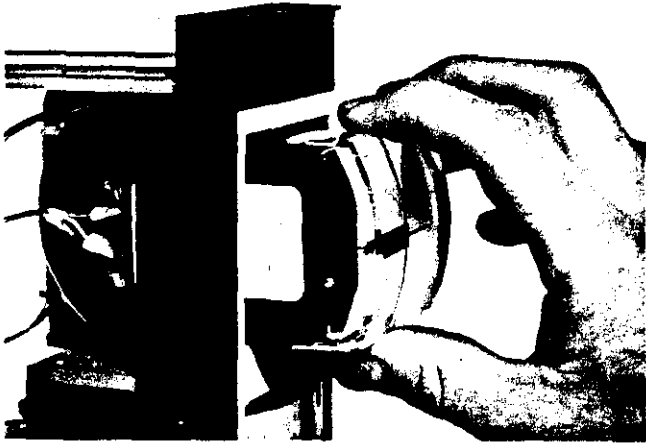

FIGURE 7-1 – Removing Process Variable Meter
3. Remove process variable meter retaining screws and pull meter or dummy meter out through front of station. (See Figure 7-1).